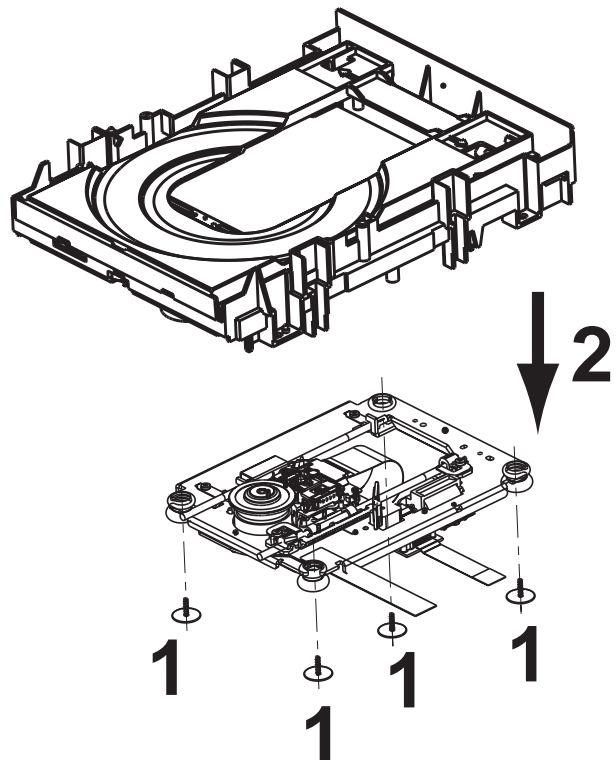

Figure 4-4 Remove DVDM
- Remove the four screws [1], see figure 4-4.